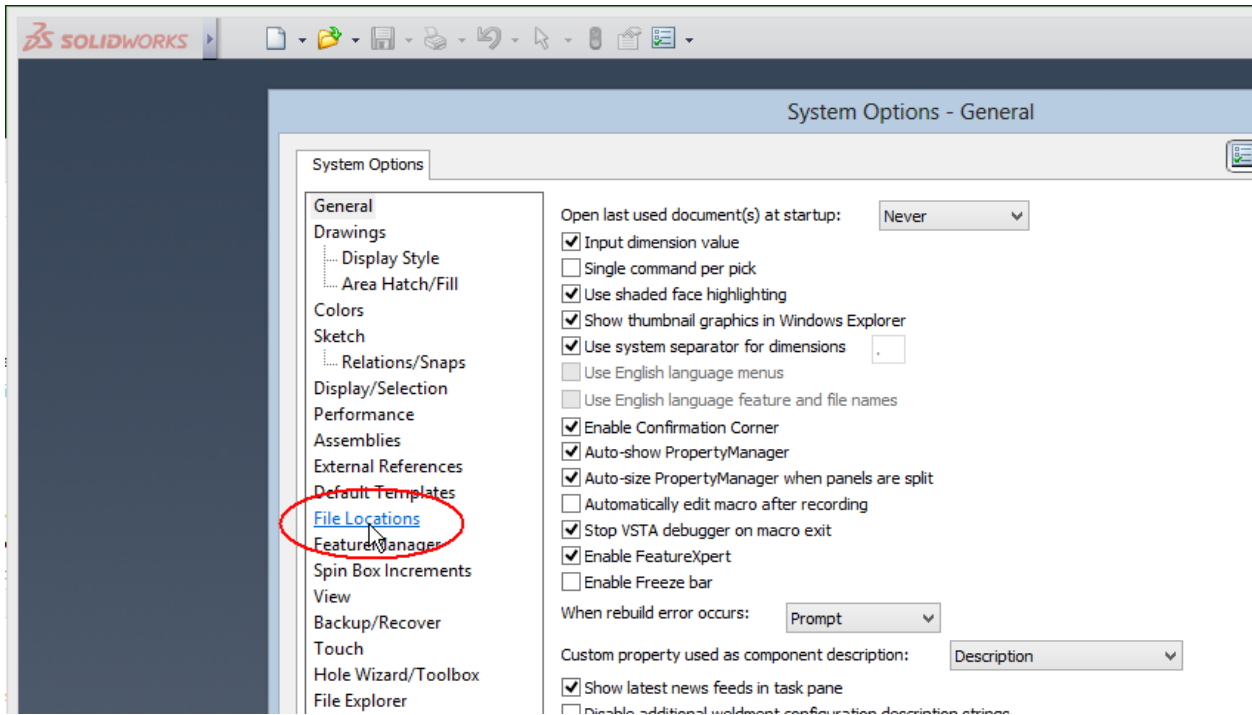

Figure 2.
- c) Click the “File Locations” in the “System Options – General” dialog (Figure 2.)